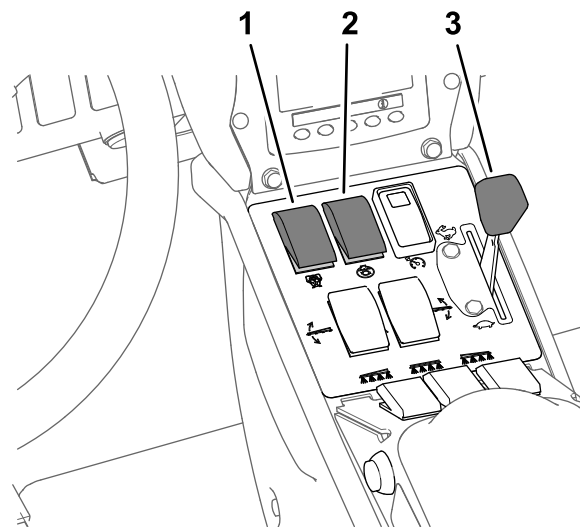

Figure 42
8. Set the agitation switch and the spray-pump switch to the ON position (Figure 42).
9. Set the throttle to the FAST position (Figure 42).
**Note:** This procedure assumes that the spray pump is on; refer to Figure 42 in Spraying in the Application Rate Mode (page 35).
4. Adjust the throttle to the desired engine speed to spray; refer to Figure 42 in Spraying in the Application Rate Mode \(page 35\).